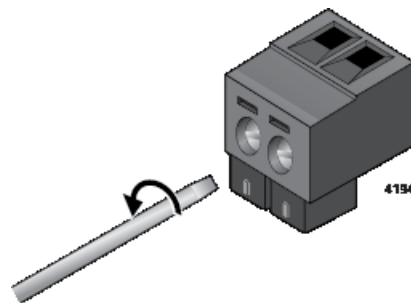

Figure 42. Loosening the Wire Retaining Screws on an Alarm Connector
4. Loosen the wire retaining screws in the connector with a #1 screwdriver. Refer to Figure 42.